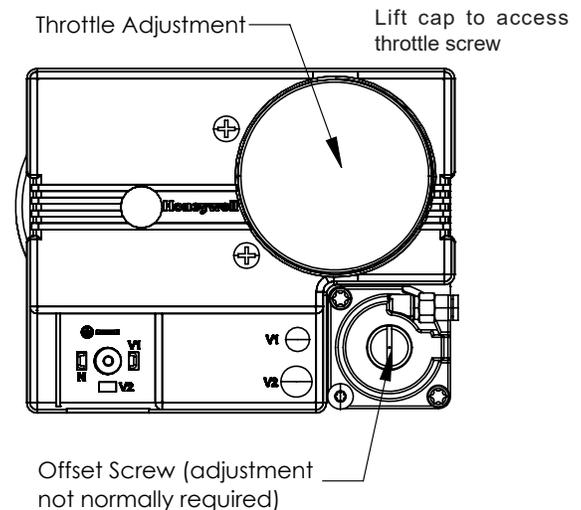
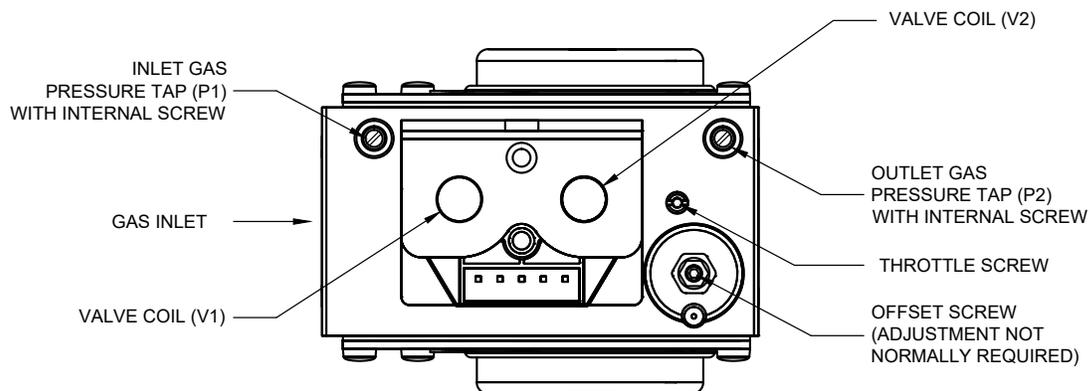

Figure 27: BFIT 500-1000L Gas Valve Adjustment
Figure 28: BFIT 400 Gas Valve Adjustment
- d. If high fire O_2 is too high (CO_2 is too low), decrease O_2 (increase CO_2) by turning the throttle screw counter-clockwise in 1/4 turn increments and checking the O_2 (or CO_2) after each adjustment. Refer to Figure 27 or Figure 28 for location of throttle screw. Verify CO air free is less than 200 ppm.
- e. If high fire O_2 is too low (CO_2 is too high), increase O_2 (decrease CO_2) by turning the throttle screw clockwise in 1/4 turn increments and checking the O_2 (or CO_2) after each adjustment. Refer to Figure 27 or Figure 28 for location of throttle screw. Verify CO air free is less than 200 ppm.